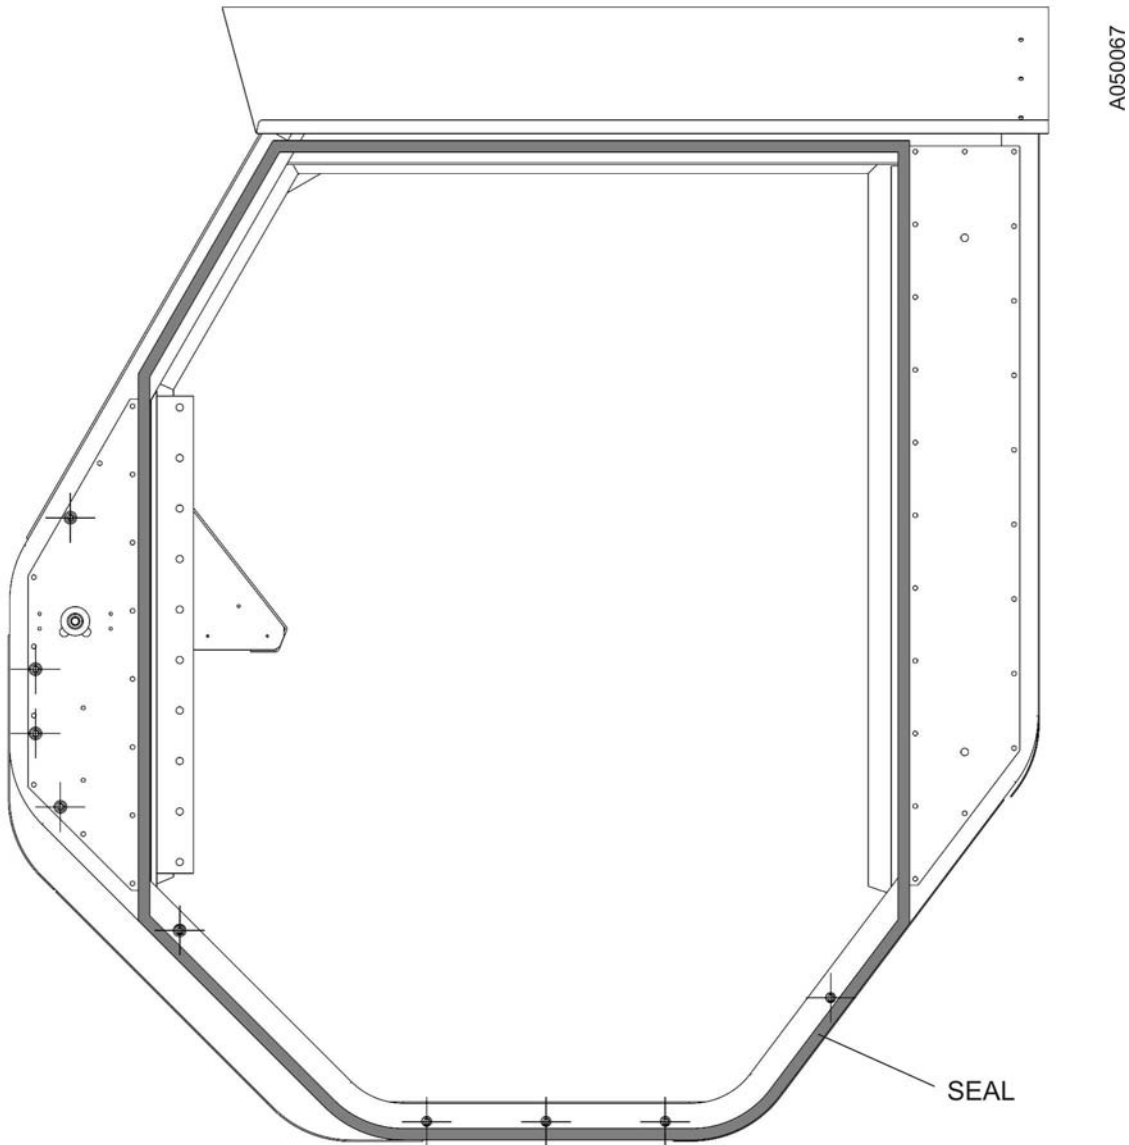

Figure 36. Side Armor Panel Side Seal Gasket attachment.
- t. Clean the vehicle's tubular frame and install (peel and stick) the Side Seal Gasket (P/N X-103) (Item 14) around the perimeter of the door opening 1/2 in. away from the edge (see Figure 36).